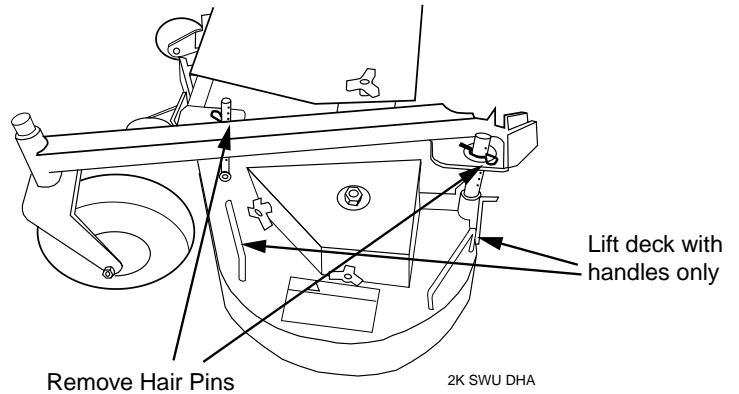

Figure 3. Cutting Height Adjustment
2. Remove the two hairpins from the adjusting pins on one side of the cutter deck (Figure 3).
Do not sharpen beyond 1/3 of the width of the blade. (See Figure 3)